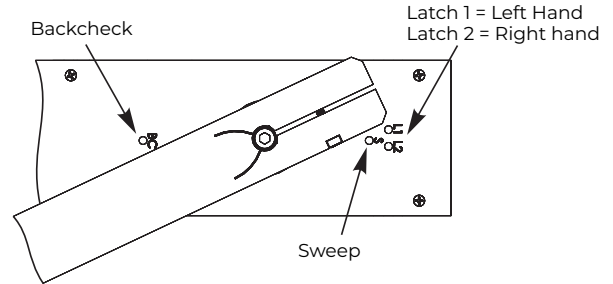

Figure 16
1. With provided 1/8" hex wrench, completely tighten latch and sweep valves by turning clockwise. This will allow for an easier closer-to-door connection. (Figure 16)